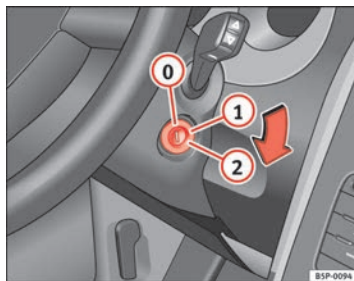

Fig. 139 Ignition key positions
In this position ⇒ fig. 139 the ignition and the engine are OFF and the steering may get locked.
- Turn the ignition key to position ⇒ page 174, fig. 139 ①. The indicator lamp  will light for engine pre-heating.
- When the warning lamp turns off, turn the key to position ② to start the engine. Do not press the accelerator.
- Turn the ignition key to position ⇒ page 174, fig. 139 .